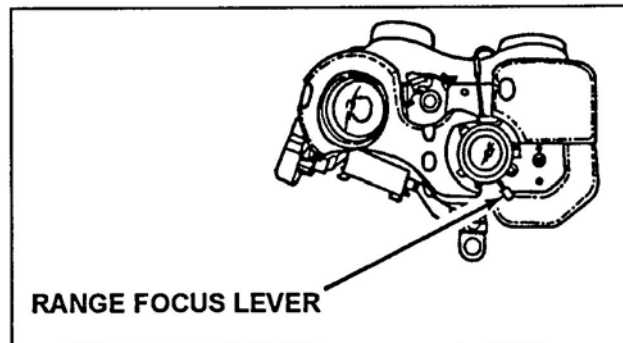

Figure 11. Range Focus Lever
- h. Adjust the range focus lever for the sharpest image (Figure 11).